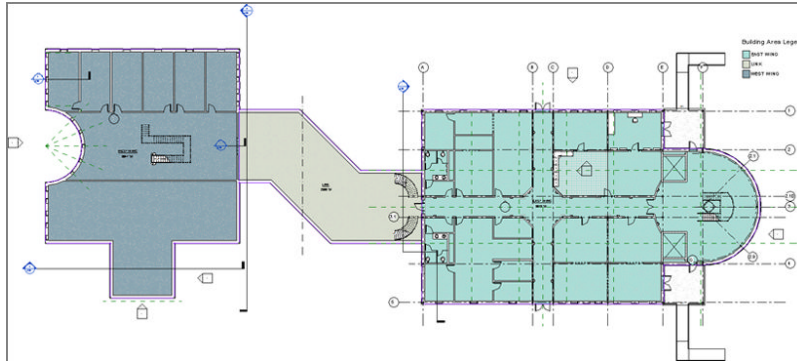

FIGURE 15.28: Adding an area legend
25. Click OK to return to the model (see Figure 15.28).